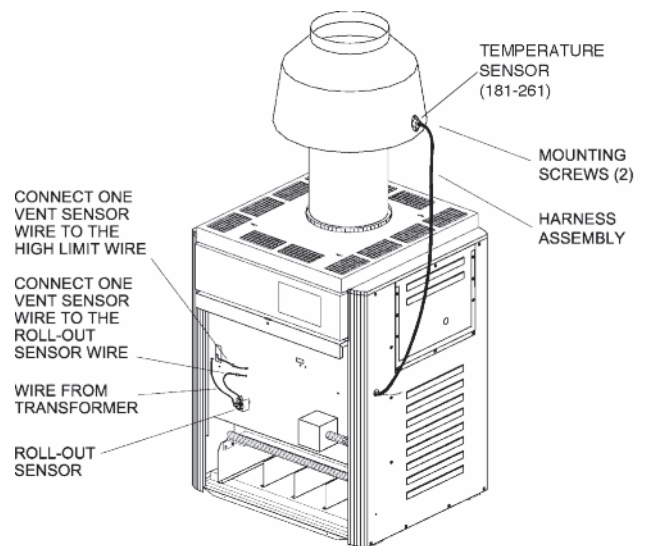

Fig. 10: Boiler After Drafthood Installation—Models 0181-0401 & 0182-0400
4. Mount drafthood on top of boiler as shown in Fig. 10. Drafthood should be positioned with the vent sensor located on the front right side as shown.